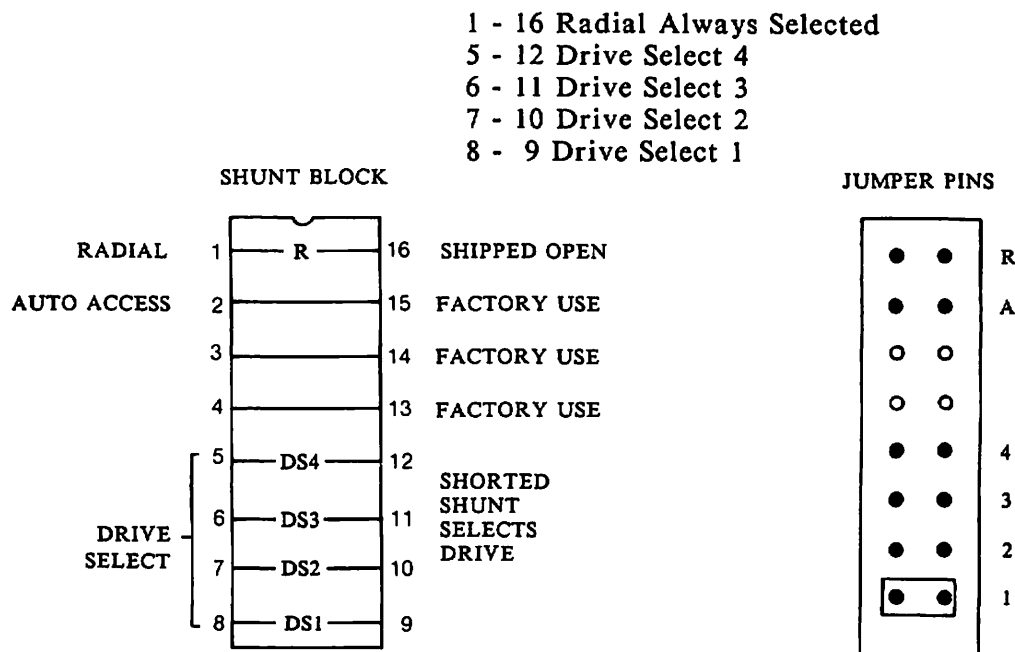

Figure 5-9
5.2.5 Drive Select 1-4 (Figure 5-9)
The DRIVE SELECTED line is driven by a TTL open collector driver as shown in Figure 5-9. This signal will go active when the proper DRIVE SELECT line is active (see 5.6.1). The DRIVE SELECT X line at J1/P1 is activated by the host system.
Two options are implemented via J6 on the outer printed circuit board (Figure 5-9) near connector J1. These options are selected by means of a shunt block or dipswitch on early models, or by pins with a moveable jumper on current models.